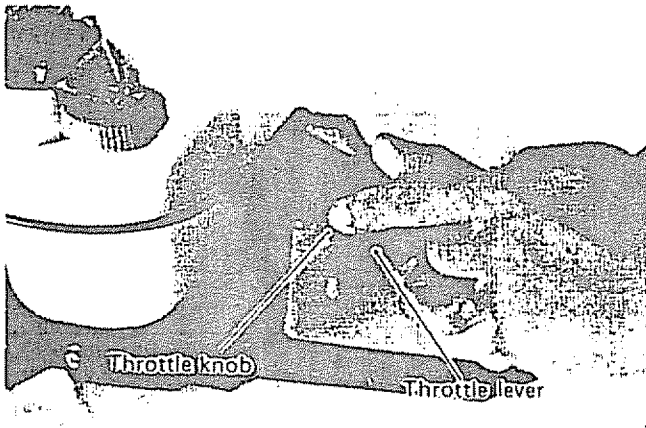

Figure 3
- Pull the throttle lever a little, push the throttle knob and lock the throttle lever at the starting position. (Figure 3)